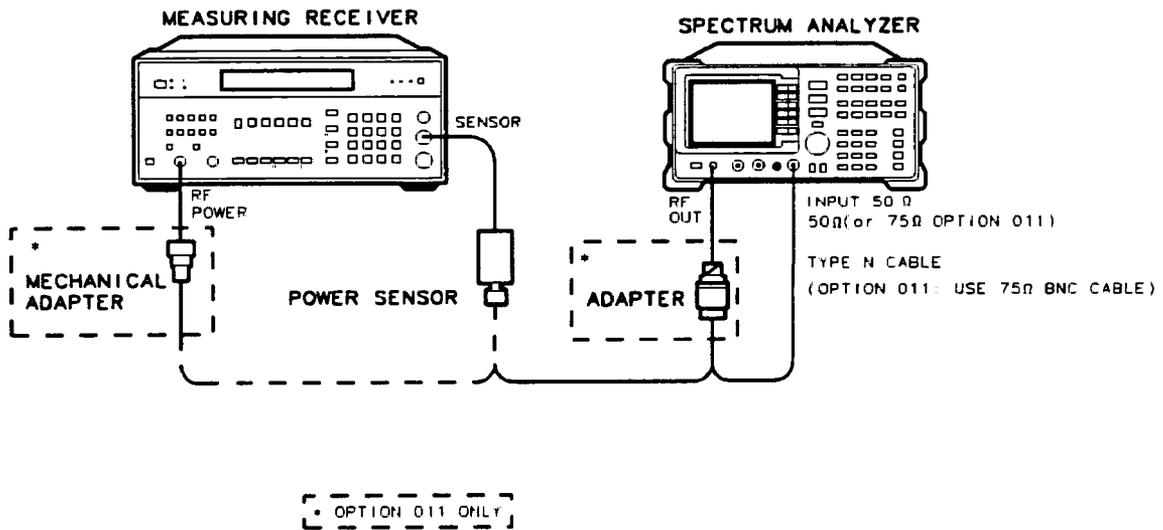

Figure 3-24. Tracking Generator Level Flatness Test Setup
1. Connect the Type N cable between the RF OUT 50Ω and INPUT 50Ω connectors on the spectrum analyzer. See Figure 3-24.